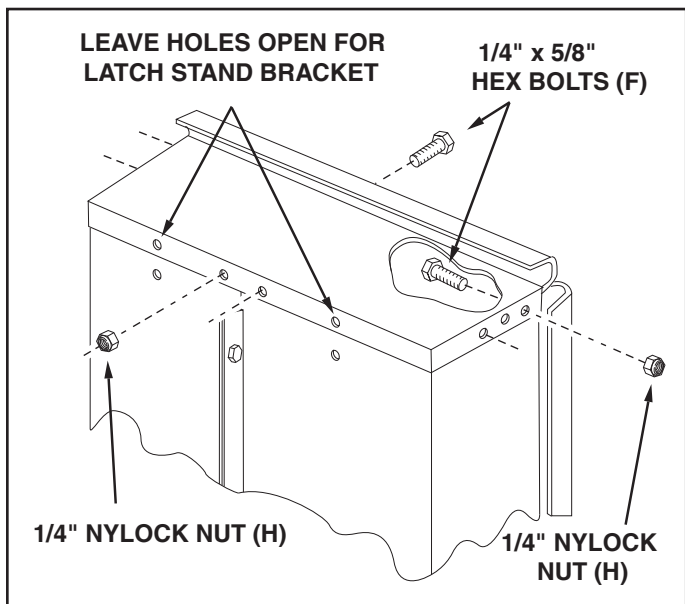

FIGURE 4
- Assemble the front panel over the end of the cart using six 1/4" x 5/8" (F) hex bolts and 1/4" nylock nuts (H) as shown in figure 4. Leave two holes in the bottom of the panel empty as shown. Pull the cart body halves together and **tighten** the bolts in the bottom of the front panel, then **tighten** the bolts in the sides. See figure 4.